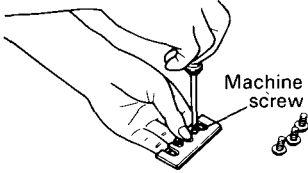

Fig. 13
- (1) After attaching the back metal to the cutter blade, temporarily fasten them together with machine screws, as shown in Fig. 13.